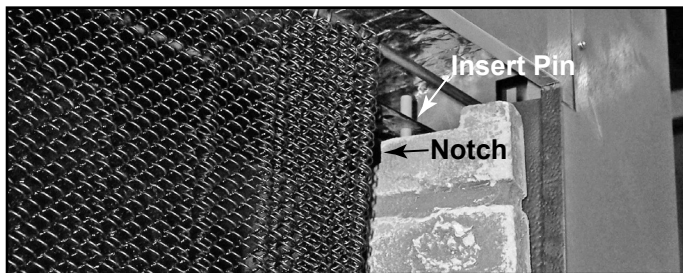

Figure 12.18 Insert Pin into Top Frame
- Install rod in hole in glass frame top. See Figure 12.18.